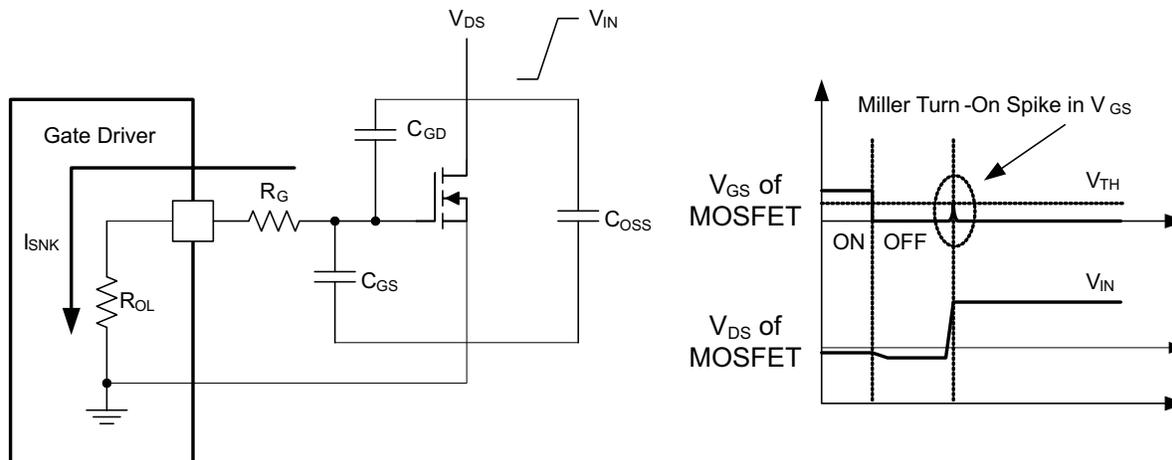

Figure 15. Low Pull-Down Impedance in UCC27611, 4-A and 6-A Asymmetrical Drive (output stage mitigates Miller turn-on effect)
An example of a situation where Miller turn on is a concern is synchronous rectification (SR). In SR application, the dV and dt occurs on MOSFET drain when the MOSFET is already held in off state by the gate driver. The current discharging the C_{GD} Miller capacitance during this dV and dt is shunted by the pull-down stage of the driver. If the pull-down impedance is not low enough then a voltage spike can result in the V_{GS} of the MOSFET, which can result in spurious turn on. This phenomenon is illustrated in Figure 15. UCC27611 offers a best-in-class, 0.35- Ω (typ) pull-down impedance boosting immunity against Miller turn on.